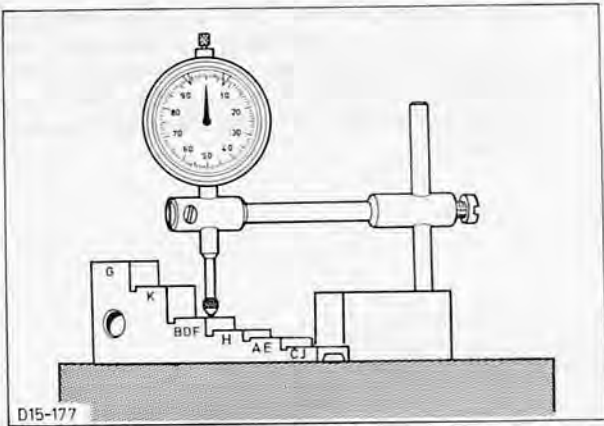

Fig. 74. Zero the dial indicator using setting gauge 15-008-03B
22. Remove dial indicator from holding fixture and fit in mounting block 15-008. Place mounting block with dial indicator on a ground surface and set to 'O' with the aid of the setting gauge as shown, Fig. 74.